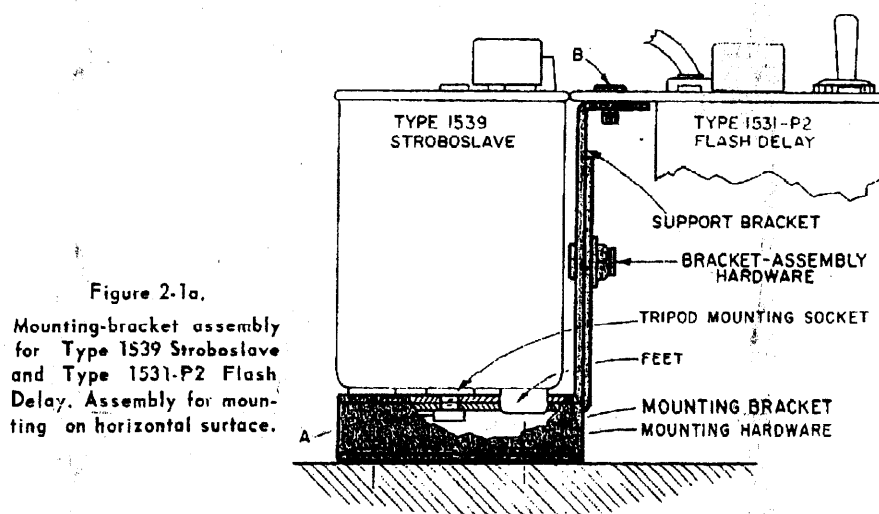

Figure 2-1a.
A mounting-bracket assembly is provided for mounting the Type 1539 Stroboslave, or the Stroboslave and the Type 1531-P2 Flash Delay when both instruments are used in combination. See Figures 2-1a and 2-1b. The mounting-bracket assembly consists of a support bracket for the Flash Delay, a mounting bracket for the Stroboslave (for mounting on either a horizontal or a vertical surface), bracket-assembly hardware, two screws (B) for mounting the Flash Delay unit, and one 3/8 inch, 1/4-20 screw (A) for securing the Stroboslave to the mounting bracket.
To mount the instruments on a horizontal surface, proceed as follows (see Figure 2-1a):